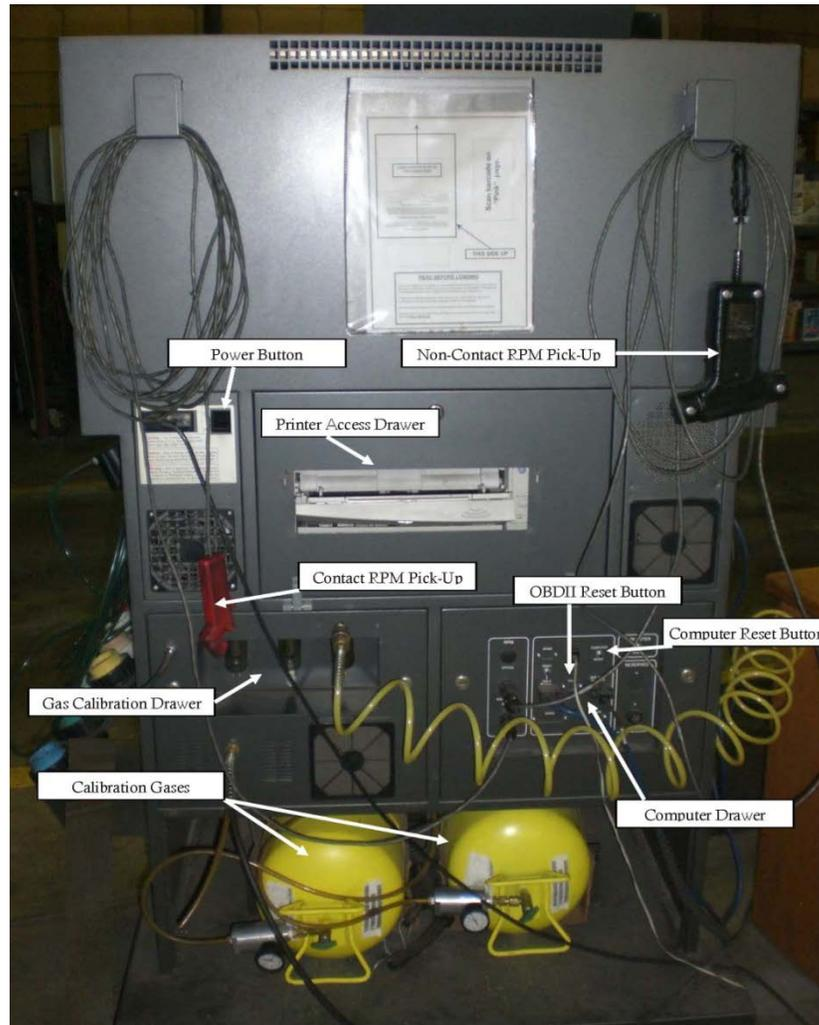

Figure 3 Back of the EIS 5000
Locate the Main Power (black rocker) button next to the power cord connector on the back of the EIS. To turn on the computer, locate the computer power button on the lower right hand side of the EIS (as you are facing the back of the machine see Figure 3 below). Press computer power button for one second and listen for four (4) audible beeps indicating the computer received the start-up command. The EIS requires a 15-minute warm up period.